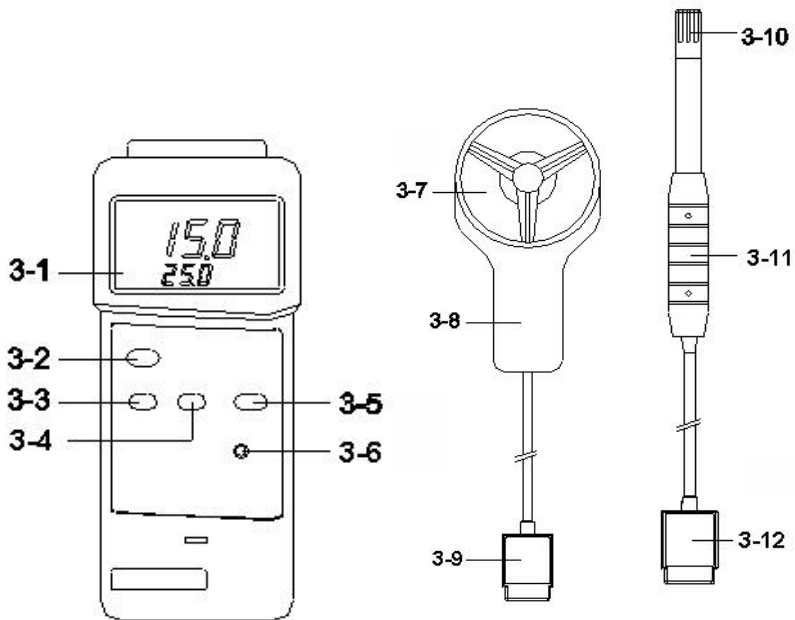
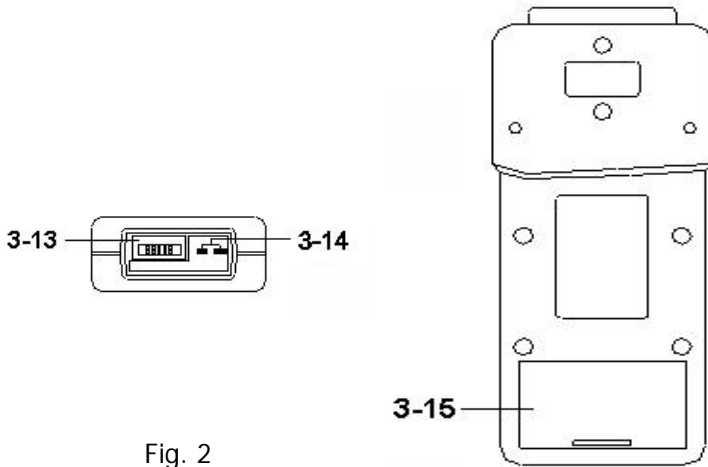

Fig. 1
Fig. 2
- 1) Install the " Vane Probe Plug " ( 3-9, Fig. 1 ) into the " Anemometer Socket " ( 3-13, Fig. 2 ).
- 2) Power on the meter by pressing the " Power Button " ( 3-2 , Fig. 1 ) once.
- 3) Hold the " Vane Probe Handle " ( 3-9, fig. 1 ) by hand and let the " Vane Probe Head " ( 3-8, Fig. 1 ) face against the measuring air flow source, then the " Display " ( 3-1, Fig. 1 ) will show air velocity and the air temperature value together.
- 1) Install the " Humidity Probe Plug " ( 3-12, Fig. 1 ) into the " Humidity Socket " ( 3-13, Fig. 2 ).
- 3) The display will show the humidity ( %RH ) and temperature value that sensing from " Humidity Probe Head " ( 3-10, Fig. 1 ) directly.
- 1) Connect the plug of the Temp. probe ( optional, such as type K probe, TP-01, TP-02A, TP-03, TP-04 ) into the " Thermometer socket " ( 3-14, Fig. 2 ).
Connect the plug of the Temp. probe ( optional, such as type K probe, TP-01, TP-02A, TP-03, TP-04 ) into the " Thermometer socket " ( 3-14, Fig. 2 ).
- 4) Press the " Function Button " ( 3-3, Fig. 1 ) continuously at least 2 seconds, the function will change from " Air velocity " to " Thermometer " in cycling.
- 4) Press the " Function Button " ( 3-3, Fig. 1 ) continuously at least 2 seconds, the function will change from " Humidity " to " Thermometer " in cycling.
During the measurement, pushing the " Data Hold Button " ( 3-3, Fig. 1 ) will hold the measured value & the LCD will indicate " HOLD " symbol.
- \* The data record function records the maximum and minimum readings. Press the " REC. Button " ( 3-4, Fig. 1 ) once to start the Data Record function and there will be a " REC " symbol on the display.
- a) Press the " REC. Button " ( 3-4, Fig. 1 ) once, the " REC MAX " symbol along with the maximum value will appear on the display.
Press the " REC button " ( 3-4, Fig. 1 ) again, the " REC MIN " symbol along with the minimum value will appear on the display.
***If intend to delete the maximum ( minimum ) value, press the " Hold button " ( 3-3, Fig. 1 ) once, the display will show the " REC " symbol only and execute the memory function continuously.***
- a. Hold the " Setting Button " ( 3-5, Fig. 1 ) at least five seconds will enter the Advanced Setting Procedures.
- b. One by one to press the " Setting Button " ( 3-5, Fig. 1 ) once a while to select the main setting function in sequence and show the text the lower display as :
- a. Use " Function button " ( 3-3, Fig. 1 ) to select the desiring measuring unit.
- b. After select the desiring unit, press the " Enter button " ( 3-4, Fig. 1 ) to save the data with default.
- a. Use " Function button " ( 3-3, Fig. 1 ) to select " K " or " J " .
- b. After select the desiring value ( K or J ), press the " Enter button " ( 3-4, Fig. 1 ) to save the data with default.
- a. Use " Function button " ( 3-3, Fig. 1 ) to select " °C " or " °F " .
- b. After select the desiring value ( °C or °F ), press the " Enter button " ( 3-4, Fig. 1 ) to save the data with default.